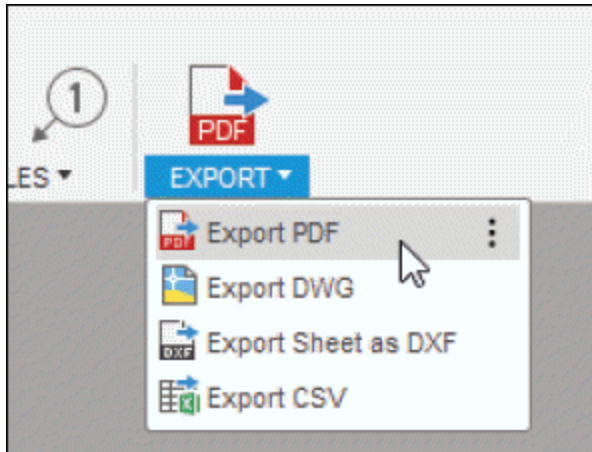
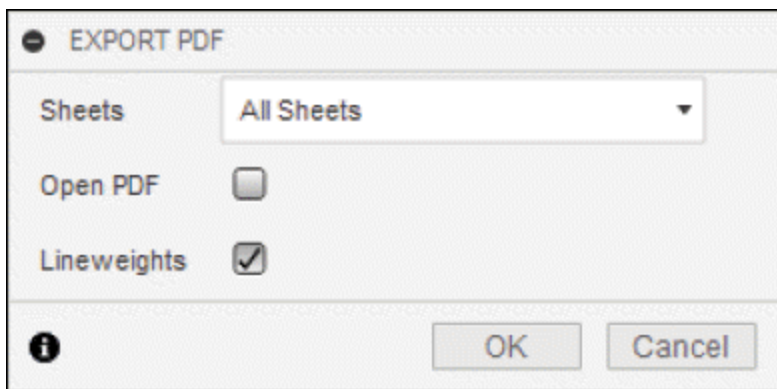

Figure-132. Export PDF tool
Figure-133. EXPORT PDF dialog box
- Click on the **Export PDF** tool of **EXPORT** drop-down in **Toolbar**; refer to Figure-132. The **EXPORT PDF** dialog box will be displayed; refer to Figure-133.